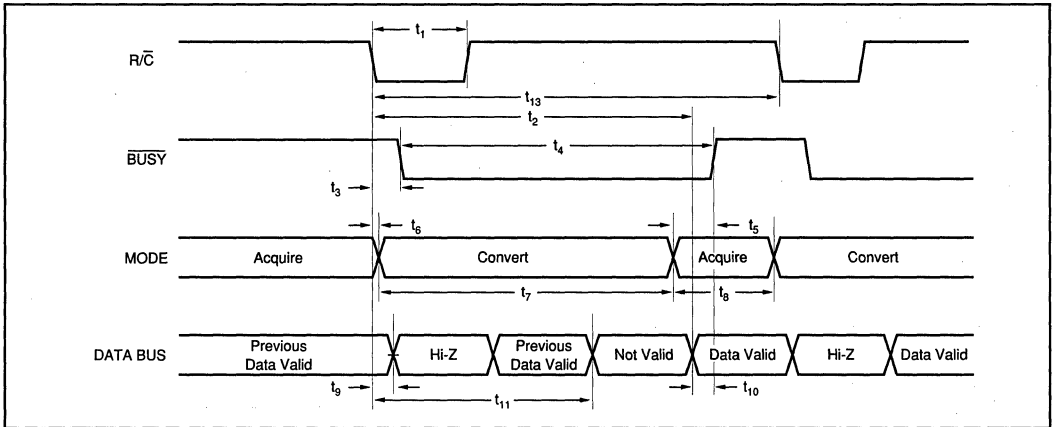

FIGURE 3. Conversion Timing with Outputs Enabled after Conversion (\overline{CS} Tied LOW.)
The ADS7821 will begin tracking the input signal at the end of the conversion. Allowing $10\mu\text{s}$ between convert commands assures accurate acquisition of a new signal. Refer to Table II for a summary of \overline{CS} , $\overline{R/\overline{C}}$, and \overline{BUSY} states and Figures 3 through 5 for timing diagrams.
NOTE: (1) See Figures 3 and 4 for constraints on data valid from conversion "n-1".
After conversion 'n' is completed and the output registers have been updated, \overline{BUSY} (pin 26) will go HIGH. Valid data from conversion 'n' will be available on D15-D0 (pin 6-13 and 15-22). \overline{BUSY} going HIGH can be used to latch the data. Refer to Table IV and Figures 3 and 5 for timing specifications.
After conversion 'n' has been initiated, valid data from conversion 'n-1' can be read and will be valid up to 5 μ s after the start of conversion 'n'. Do not attempt to read data from 5 μ s after the start of conversion 'n' until \overline{BUSY} (pin 26) goes HIGH; this may result in reading invalid data. Refer to Table IV and Figures 3 and 5 for timing specifications.
The number of control lines can be reduced by tying \overline{CS} LOW while using R/\overline{C} to initiate conversions and activate the output mode of the converter. See Figure 3.